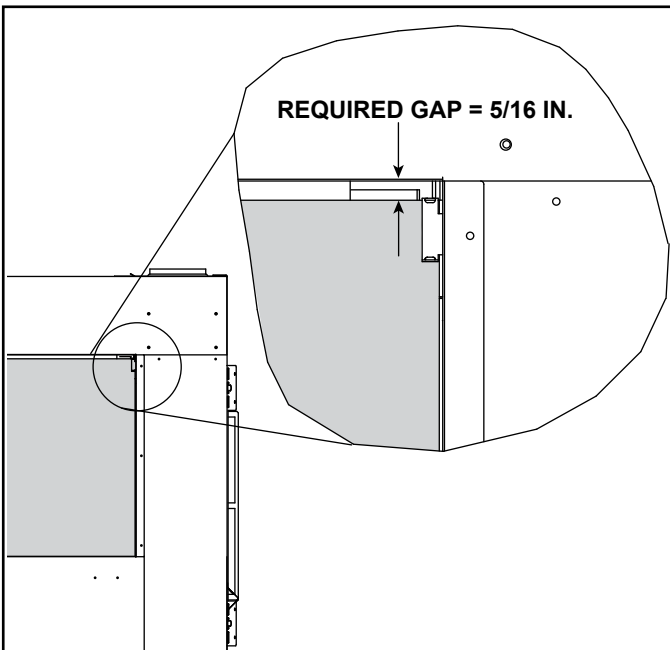

Figure 4.17 Barrier Glass Retaining Clip Installed
**Note:** When barrier glass is properly placed, a 5/16 inch gap is maintained between the top of the barrier glass and the top of the appliance opening. See Figure 4.17.